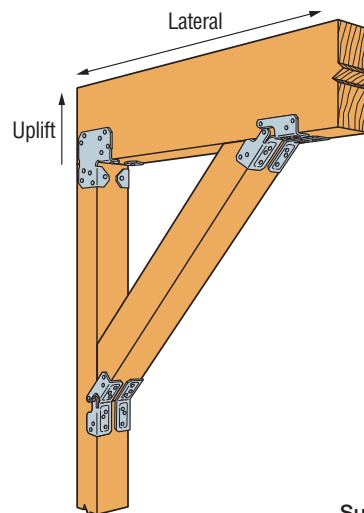
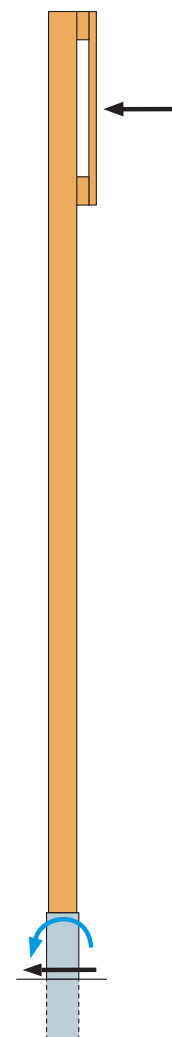

Figure 2 — Typical LCE Post Cap Installation with KBS1Z Knee Bracing
Figure 3 — Non-Top-Supported Post with MPBZ Moment Post Base
- Except for the MPBZ moment post base, post bases do not provide adequate resistance to prevent members from rotating about the base and are therefore not recommended for non-top-supported installations (such as fences or unbraced carports). The top of the post must be restrained from moving horizontally by some other means, e.g., by tying the roof into a supporting structure or by adding knee bracing between the posts and beams. (Figure 2) Alternatively, see the MPBZ on pp. 71–73 for a post base that provides moment resistance for columns or posts. (Figure 3)
- Factored lateral resistances for post caps can only be achieved if one of the members, the post or beam, is supported laterally by other means. (Figure 2) For applications involving lateral load transfer from the beam to the column, the column must be designed to receive the load without rotating about its base (e.g., cantilevered out of the ground, diagonally braced, or connected at the base with a moment-resisting connector like the MPBZ post base).